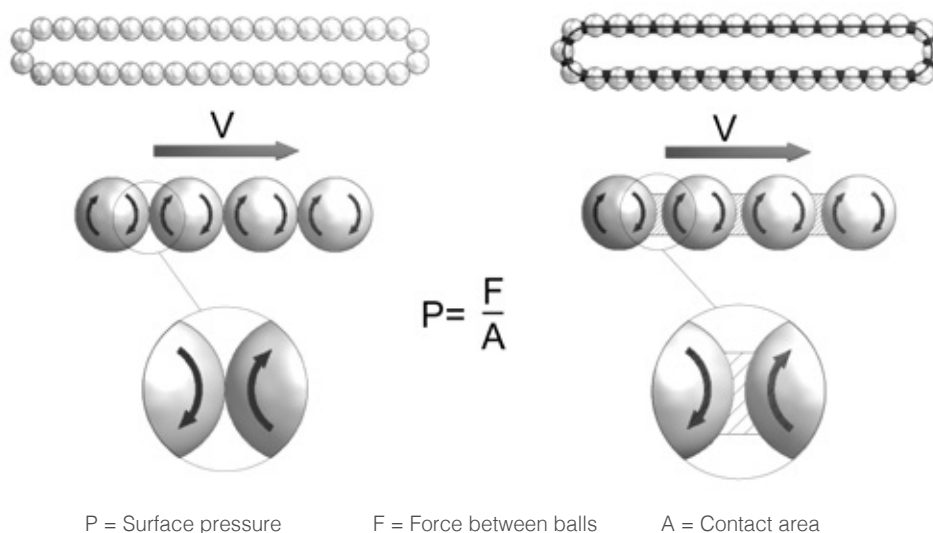
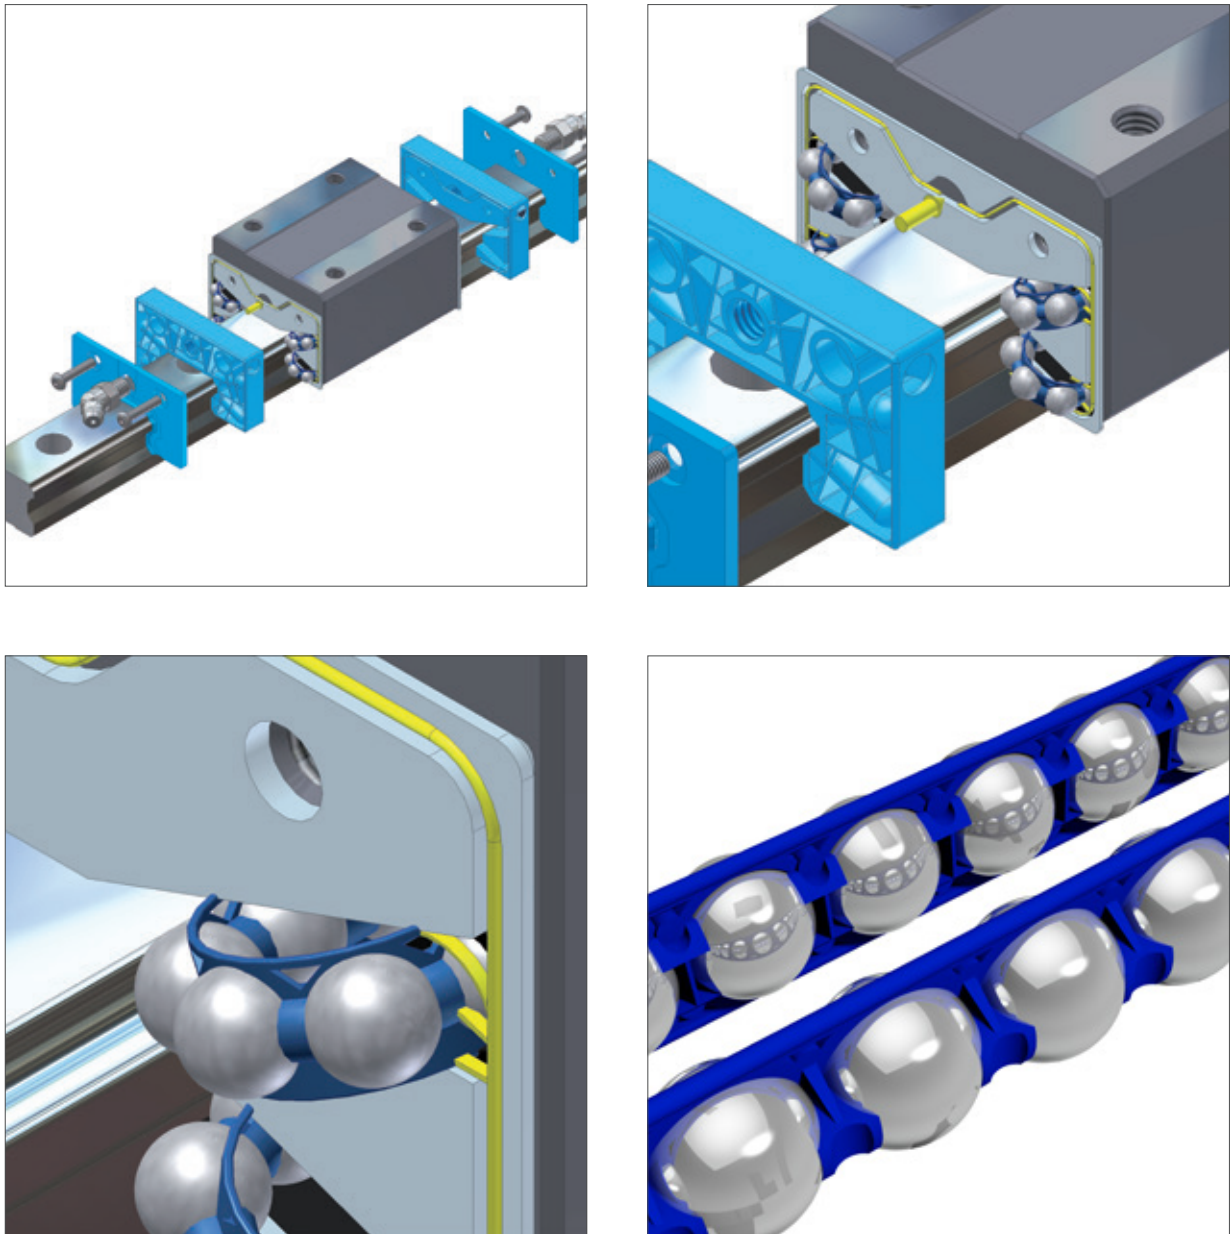

Figure 1.6 Contact areas
Figure 1.7 Linear Guides with ball chains
The rotating balls in conventional Linear Guides have point contact between each other (Figure 1.6). The rotation speed at the contact point is double that of the speed of the balls. The contact area (A) is so small that the surface pressure (P) tends towards infinity. This leads to heating and wear of the balls and the Linear Guides system. The chain in Linear Guides with ball chains has the function of a cage. Contact between the balls is prevented (Figure 1.6). The ball and the chain also have a relatively large contact area (A) that significantly reduces the surface pressure (P). The rotation speeds at the contact surfaces of ball and chain correspond. The ball chain is further used to transport the lubricant and to create a lubrication film on the balls. The design of the carriage allows effective supply with lubricant from the lubricant connection to the circulation areas of the ball chains (Figure 1.7).